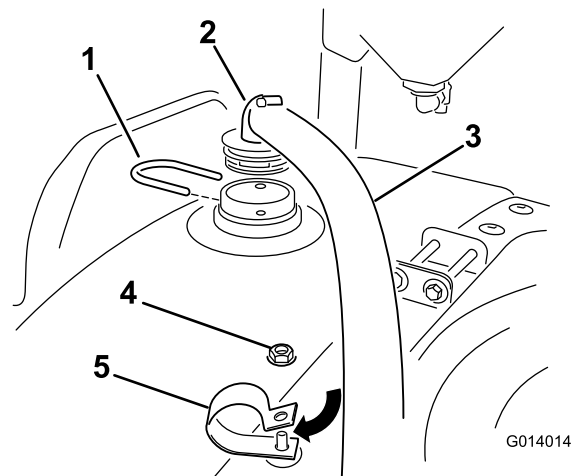

Figure 19
2. Install the hose end with the 90° fitting to the previously installed bulkhead using a retaining fork (Figure 19).
4. Install a lock nut over the bolt in the R-clamp and finger tighten at this time (Figure 19).